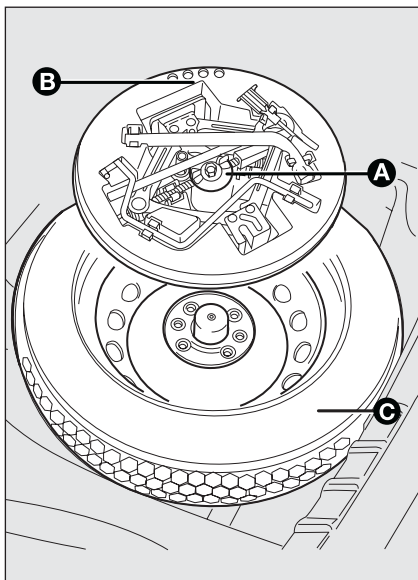

fig. 11
- Loosen the fastener **A-fig. 11**;
- Stow the spare wheel **C-fig. 11** in the space provided in the boot;
- Insert the jack partially open in its container **B-fig. 11** forcing it lightly to prevent it from vibrating when travelling;
- Stow the container complete with tools on the spare wheel and secure everything with the clamping device **A-fig. 11**;